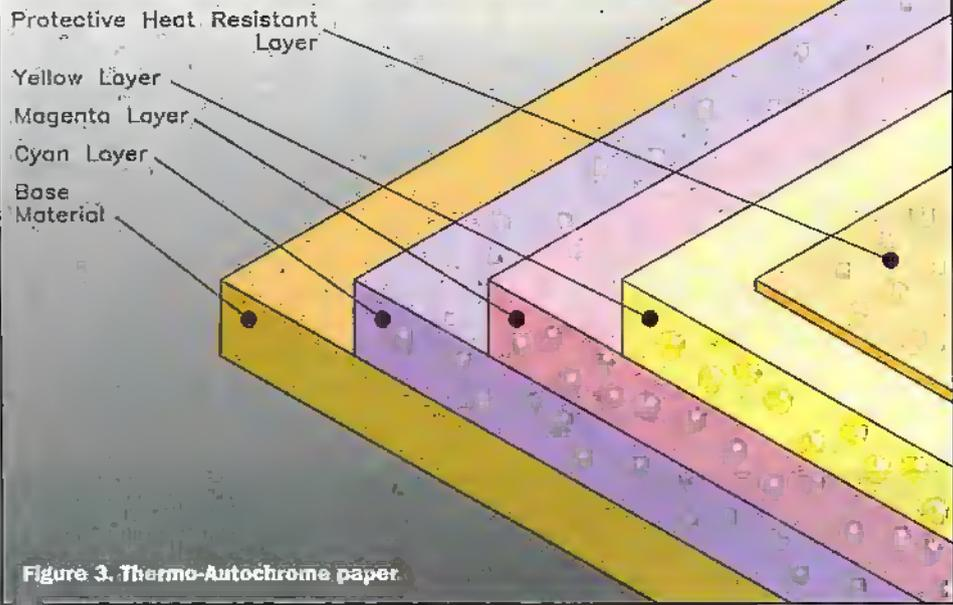

Figure 3. Thermo-Autochrome paper
The newest thermal printer technology does away with wax and dye sheets and returns to thermal paper, albeit paper of a special kind, with three colour sensitive layers each containing 1µm diameter microcapsules to produce the CMY colours (as shown in Figure 3). Developed by Fuji, the Thermo Autochrome (TA) process uses a full width thermal head to form the image